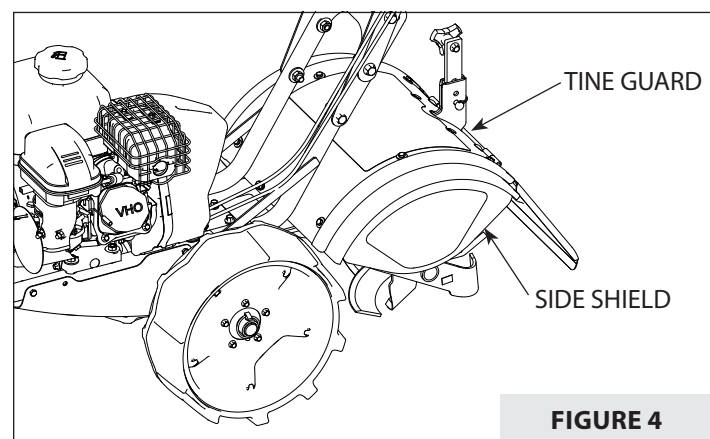

FIGURE 4
11. Locate the side shields and place one up against the side of the tine guard and hold in place. **SEE FIGURE 4.**
12. Place one (H) M6 flat washer onto one (F) M6 x 12 mm bolt. Repeat this process for all three (F) M6 x 12 mm bolts. Insert the three bolts into the three holes of the tine guard, making sure they pass through the side shield as well. Place a (H) M6 flat washer and a (G) M6 nylock nut onto the bottom of each of the bolt/washer combinations and tighten all with a wrench/socket.